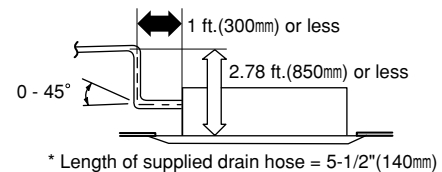

Fig. 6-7
- In cases where it is necessary to raise the height of the drain piping, the drain piping can be raised to a maximum height of 2.78 ft. (850 mm) above the bottom surface of the ceiling. Under no conditions attempt to raise it higher than 2.78 ft. (850 mm) above the bottom surface of the ceiling. Doing so will result in water leakage. (Fig. 6-7)